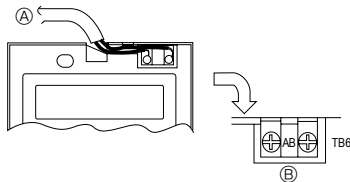

Fig. 4-3
2) Connecting procedures (Fig. 4-3)
① Connect the remote controller cable to the terminal block.